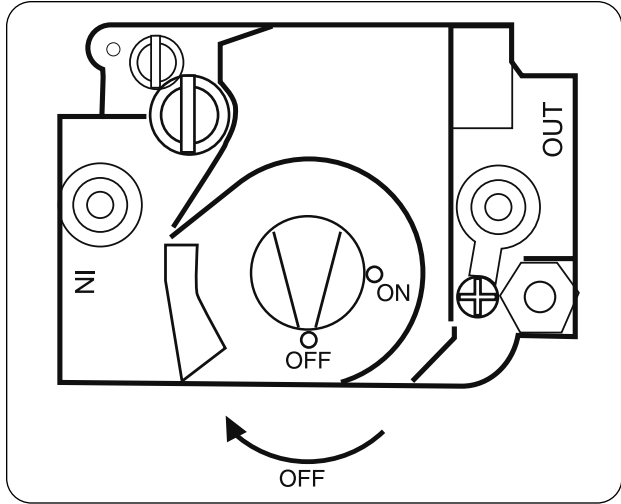

Figure 8a. Gas Valves - Top View
5. For units with gas valves like that shown in **Figure 8a**, turn gas control knob clockwise to OFF.
6. Wait five (5) minutes to clear out any gas. If you then smell gas STOP! Follow "B" in the safety information on the appliance label or in this manual. If you don't smell gas, go to the next step.
7. For units with gas valves like that shown in **Figure 8a**, turn gas control knob counterclockwise to ON.